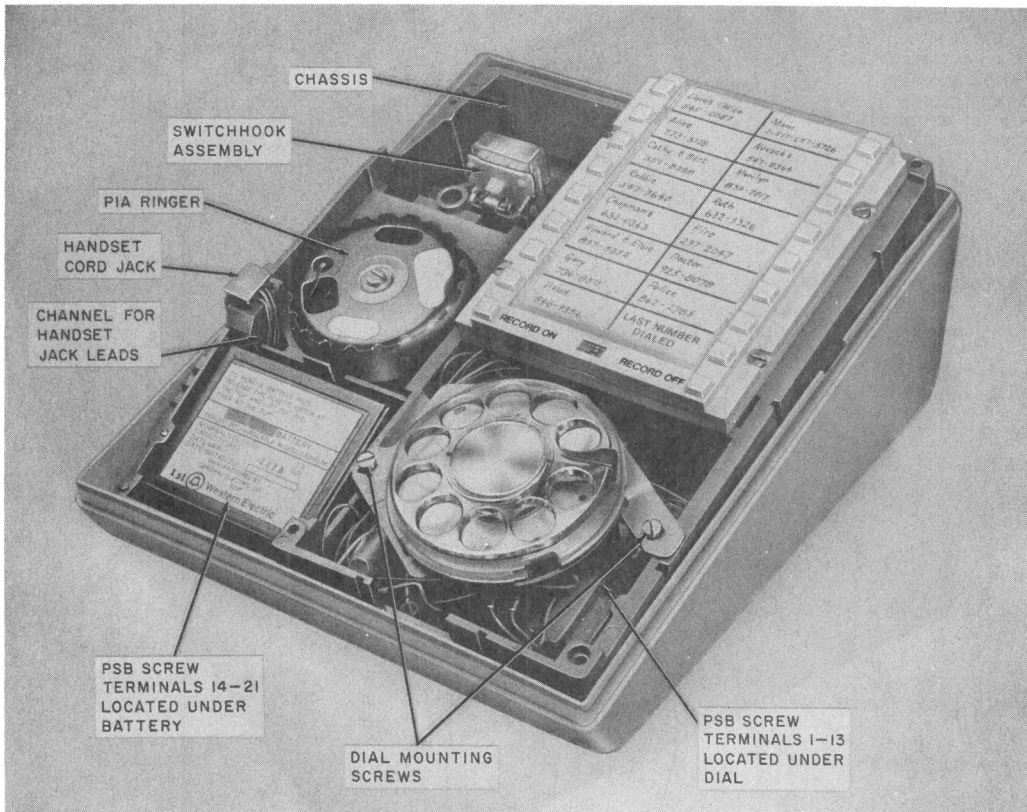

Fig. 5—960A01M Telephone Set With Handset, Faceplate, Shield, and Upper Housing Removed
- **Battery**—snaps into a cavity from the top side in the left front corner of the chassis (Fig. 5).
- **Ringer**—fastened by two screws to bosses on the bottom of the chassis (Fig. 9A) and rests in a cavity just to the rear of the battery cavity (Fig. 5).
- **Handset Jack**—slides into a cavity on the top left side wall of the chassis adjacent to the ringer and battery (Fig. 5).
- **Switchhook Assembly**—soldered to power supply printed wiring board and located at left-rear corner of power supply board (PSB) (Fig. 5).
- **Power Supply Printed Wiring Board Screw Terminal Areas**—(Fig. 5 and 6).
- **Chassis**—main structural member to which other component assemblies are fastened, including the upper and lower housings (Fig. 5 and 9).
**6.04** The KS-20390L5 battery has an expected life of about 4 years. It can be replaced without loss of memory provided that commercial ac power to the set is continuously maintained. To replace the battery, proceed as follows (Fig. 5).